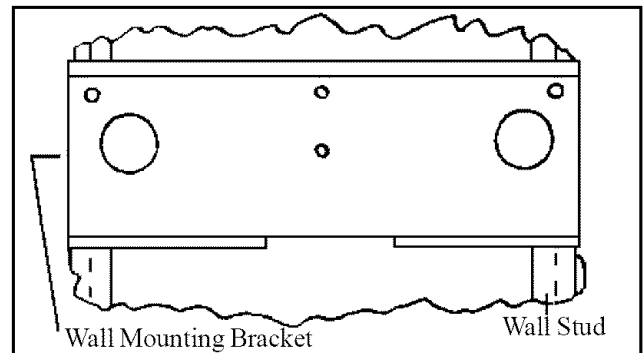

FIGURE 4
STEP 3. Attach wall mounting bracket to wall studs with top at desired height using (2) wood screws provided. Make sure top of bracket is level. See Figure 4.